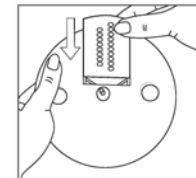

Fig. 10
- Place the blade of your choice on the blade holder. Inserting the longer tab on the side of the blade first. (Fig. 10)